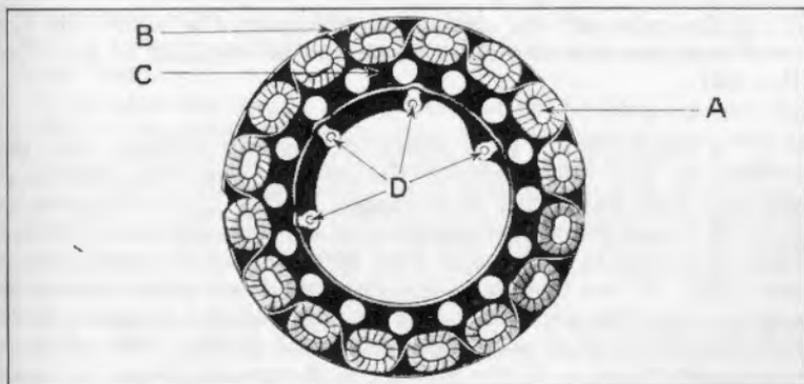
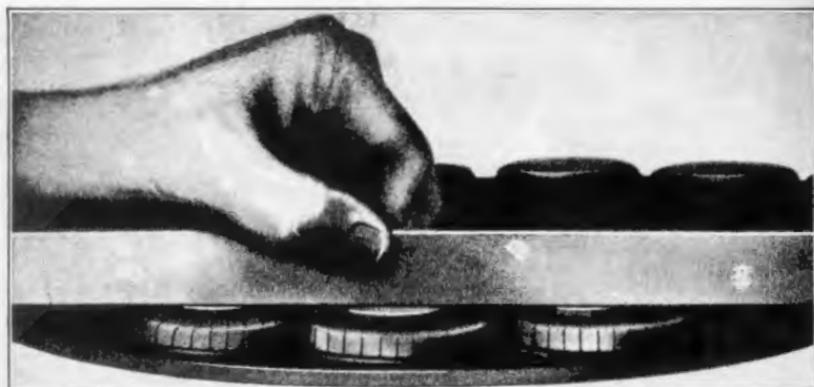

Fig. 500
Fig. 501
- 996 To locate a grounded or shorted coil, use electric light current, (110 or 220 AC or DC), first passing it through an electric soldering iron or other electrical resistance, which draws between three and five amperes. Fasten one wire of this testing outfit to a bare spot on the coil support, (points "D" Fig. 500). With the other wire touch
contact "B". While the current is passing through the coil assembly, lay a piece of steel, about four inches long, across the cores of adjoining coils, as shown in Fig. 501, until all cores have been touched. If a coil is found where all the coils beyond it give no magnetic pull, that coil (the last live one) is grounded. Examine it to see if the wire leading from it to the first dead coil is grounded on the casting. If not, the last live coil is grounded on its core (See "A" Fig. 500) and by lifting it off of the casting, the dead coils will become alive, unless there is another grounded coil.